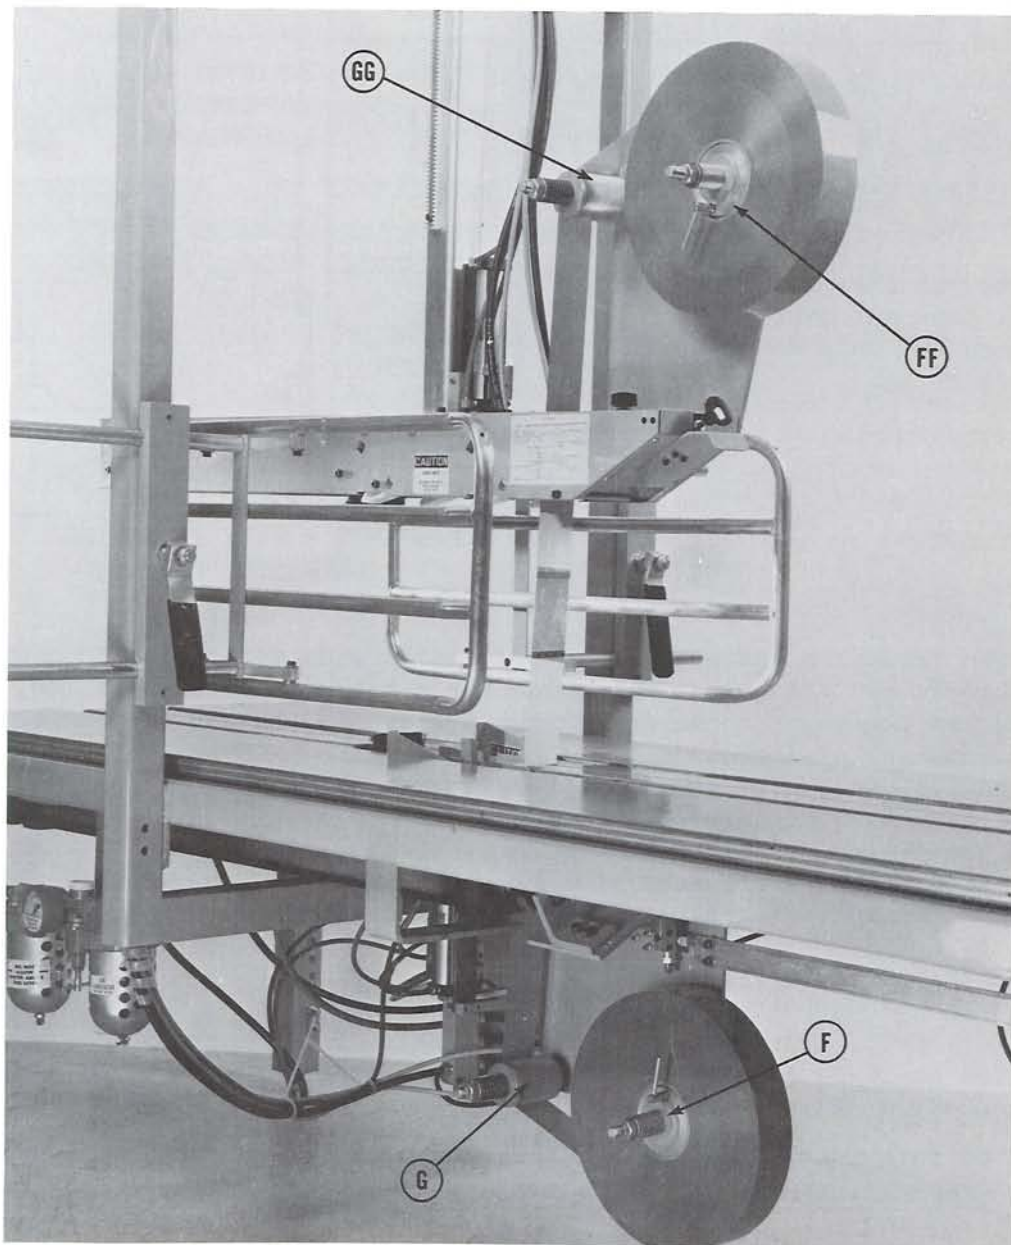

FIGURE 7 - TAPE ROLL LOADING - LEFT FRONT VIEW
TAPE ROLL LOADING: (Refer to Figure 7.)
TAPE WEB TENSION: (Refer to figure 7)
STEP 2 - After filling the box, the packer folds the flaps and slides it forward under the hold down ski until it contacts the box stop (E). Thus a bridge of tape has been established between the box in the discharge position and the box in the infeed position. The packer then actuates the cycle button (J, Figure 7) to start the sealing cycle of the S-609.